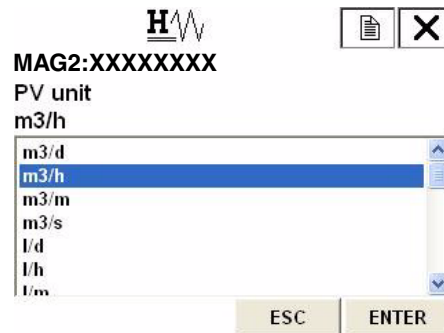

Figure 66. Selection of Flow Rate Unit
4. Once the display as shown in Figure 66 appears, move the arrow key up or down to select a flow unit. After making a selection, press F4 (ENTER). If F3 (ESC) is pressed here, the selection is canceled and the display returns to the basic menu.